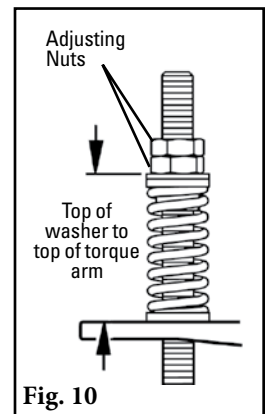

Fig. 10
16. **Set the correct blade tension.** Refer to the chart on the pivot shaft bracket (also shown below) for the spring length required for the belt width. Lightly pull the pivot arm toward the end of the torque arm slot nearest the pole and turn the adjusting nuts until the required spring length is achieved (Fig. 10). Lock the top adjusting nut.